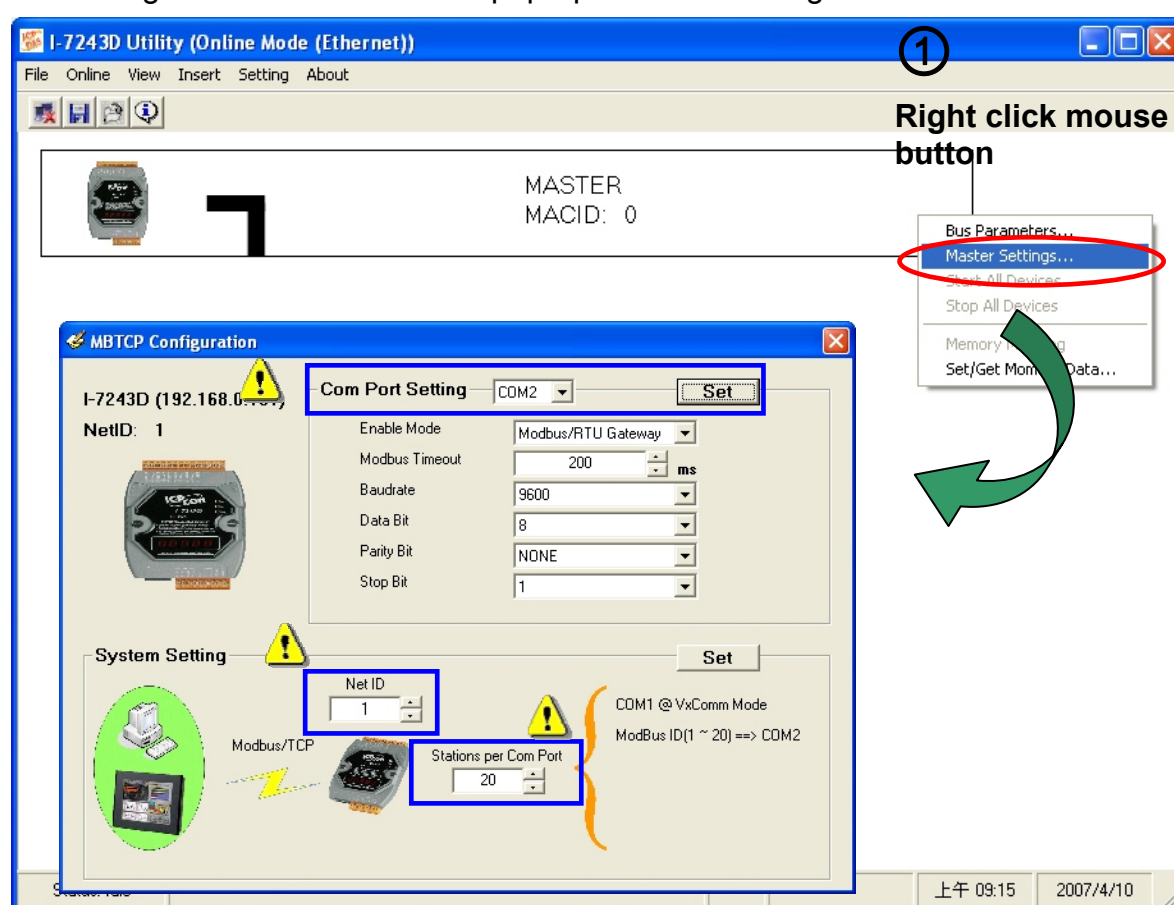

Figure 5-17: MBTCP Configuration
3. Select the “Setting” item on the menu bar, or click the mouse right-button on the master frame, then click the “Master Settings...” item. Then the “MBTCP Configuration” window will be pop-up. As shown in figure 5-17.